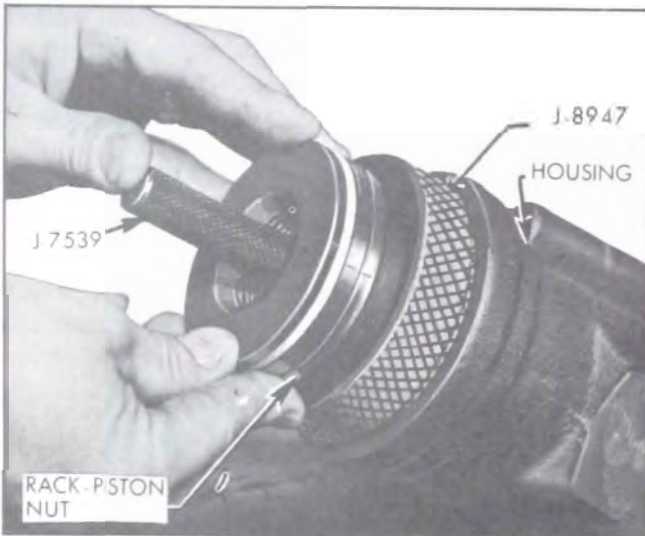

Figure 8-67—Installing Rack-Piston Nut in Housing
6. Install ring compressor sleeve tool J-8947 in gear housing and hold it tightly against shoulder in the housing. See Figure 8-67. Insert the rack-piston nut into the housing until the ball retaining tool J-7539 engages the worm. Turn the stub shaft, drawing the rack-